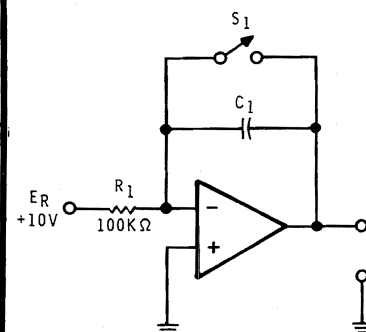

Figure 6-64
49. (rectangular or square) Figure 6-64 shows how a sawtooth waveform can be produced with the operational amplifier. The charging current is determined by  $E_R$  and  $R_1$ . It is \_\_\_\_\_ microampere.
50. (100) When  $S_1$  is \_\_\_\_\_, this current charges  $C_1$ .